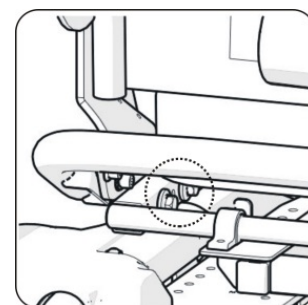

Figure 5-71
5.3.5.1 Use the #13 box end Wrench from KARMA Tool Kit to loosen the two bolts under the seat . Remove the bolts on the other side. (Figure 5-71).